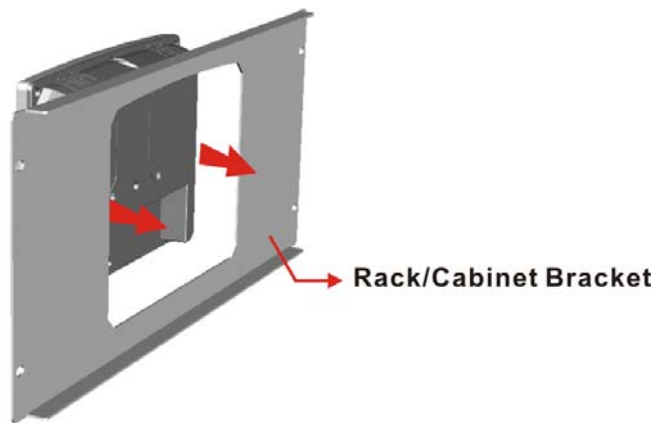

Figure 3-29: The Rack/Cabinet Bracket
- Step 1:** Slide the rear of the DM-F series LCD monitor through the rack/cabinet bracket until the aluminum frame is flush against the front of the bracket (Figure 3-29).